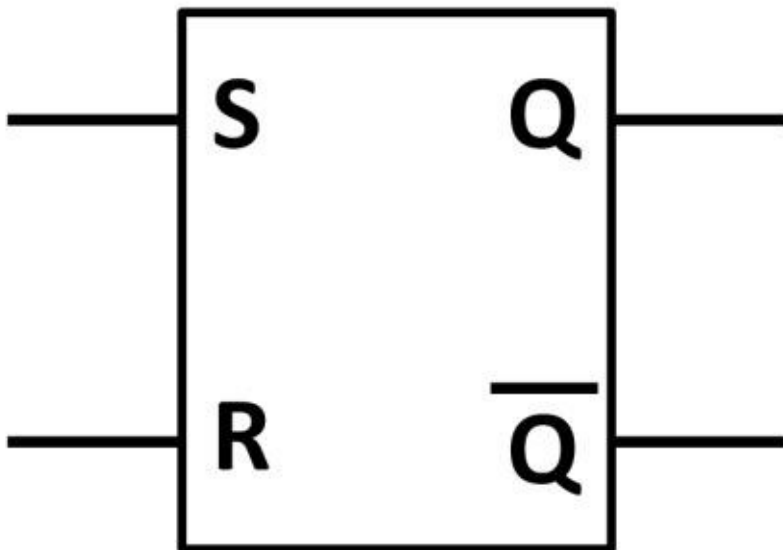

Figure 5.23: Latch schematic symbol
automobiles nowadays have memory seats. The passcode of a home security system is stored as memory within the system. Smartphone cameras store images or videos as memories. There are many more electronic applications that use memory. Digital circuits such as the latch and flip-flop are basic building blocks of digital systems and data storage elements. Digital systems combined with standard logic gates and memory are called sequential logic. The difference between a latch and a flip-flop is that a flip-flop uses a clock to determine the output states, a latch does not. A latch consists of two inputs, a set (S) and reset (R), and a differential output pair (Q, Q_{bar}). Figure 5.23 shows the latch schematic symbol.